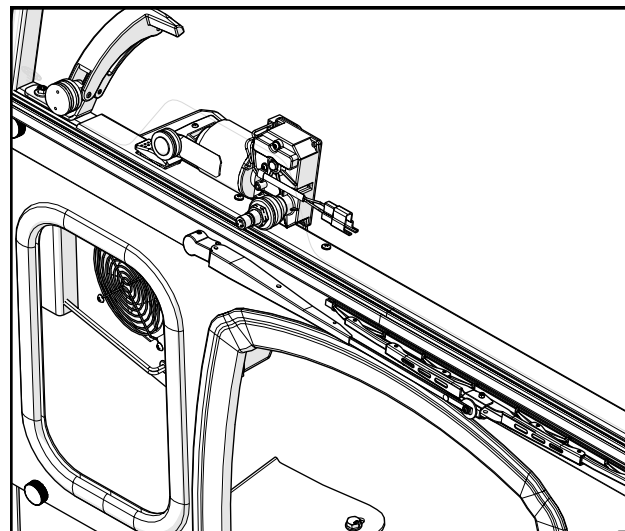

Fig. 16.3 (Install Wiper Arm and Wiper)
16.3 Install the wiper arm onto the wiper motor so that the wiper is horizontal. See Figure 16.3. Tighten the Allen Screws.